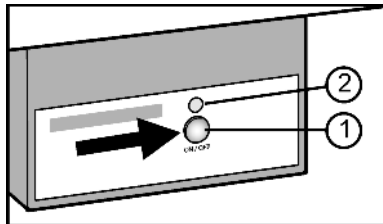

Fig. 6
- Press the On/Off button Fig. 6 (1) so that the LED Fig. 6 (2) shines.